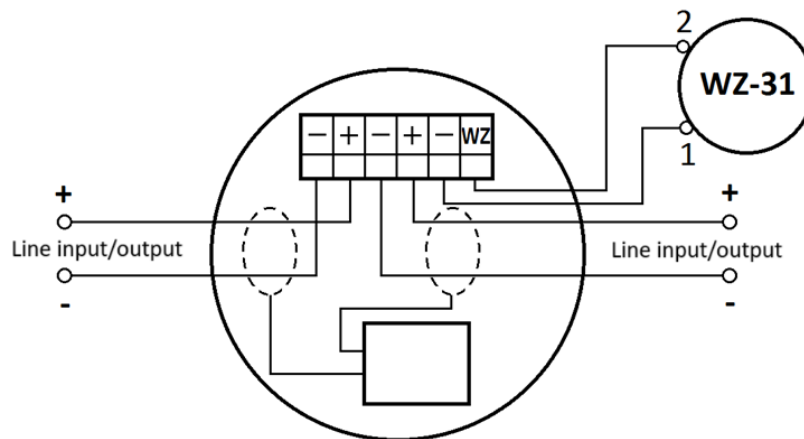

Fig.7.1 Wiring diagram used for a single tripping indicator.
- **as in the 4000 system** – the mode is intended only for a single indicator of the WZ operation (Fig.7.1). It is possible to control the siren with a group address regardless of the detector status,